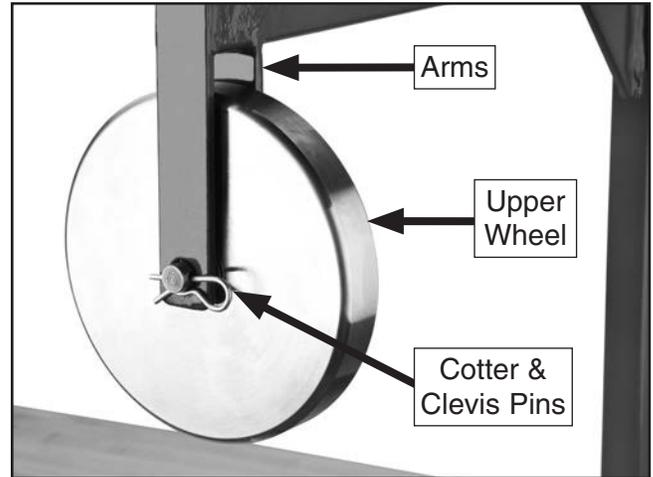

Figure 8. Upper wheel installed.
6. Position the upper wheel between the frame arms, insert the upper wheel clevis pin through the arms and wheel, and secure the pin with the hairpin cotter pin (see **Figure 8**).